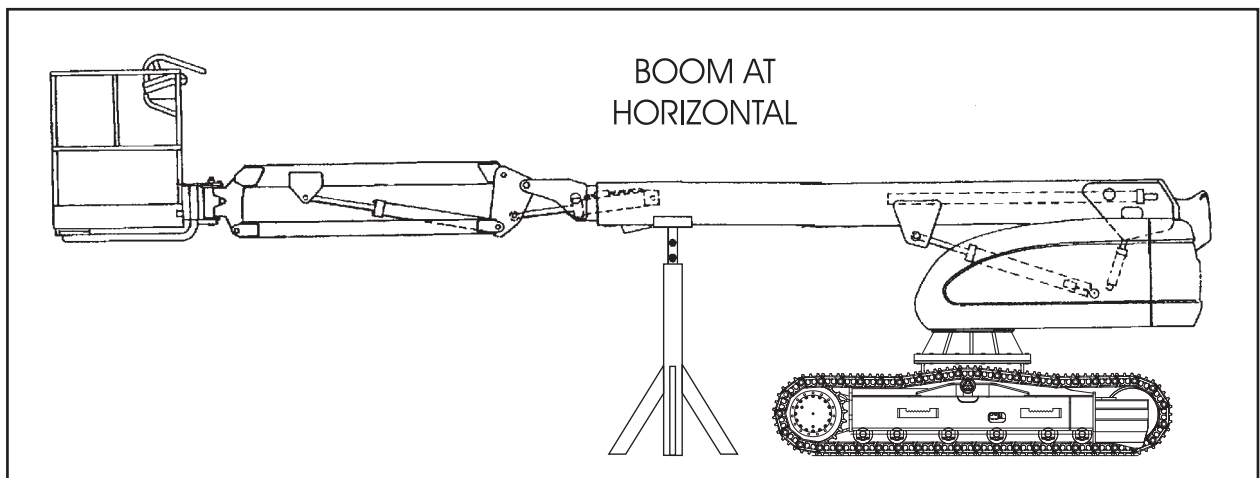

Figure 5-14. Boom Positioning and Support, Cylinder Repair
2. Shut down engine. Support main boom basket end with a prop. (See Figure 5-14., Boom Positioning and Support, Cylinder Repair).